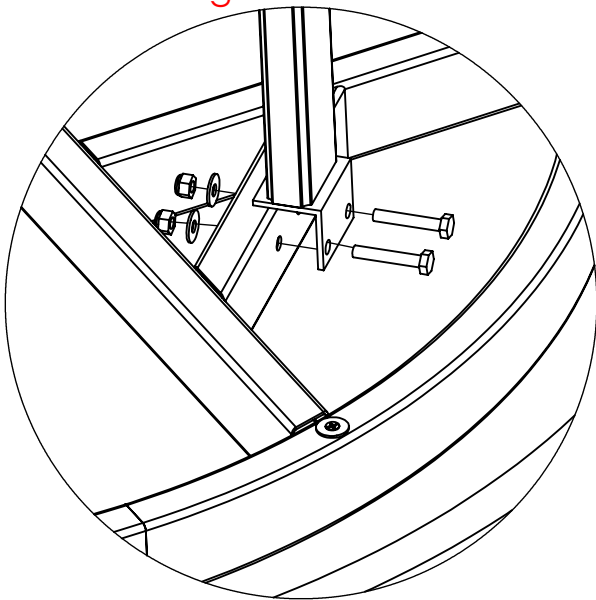

Fig 2
3. Again using provided hardware, assemble the base assembly to top support as shown in fig2.